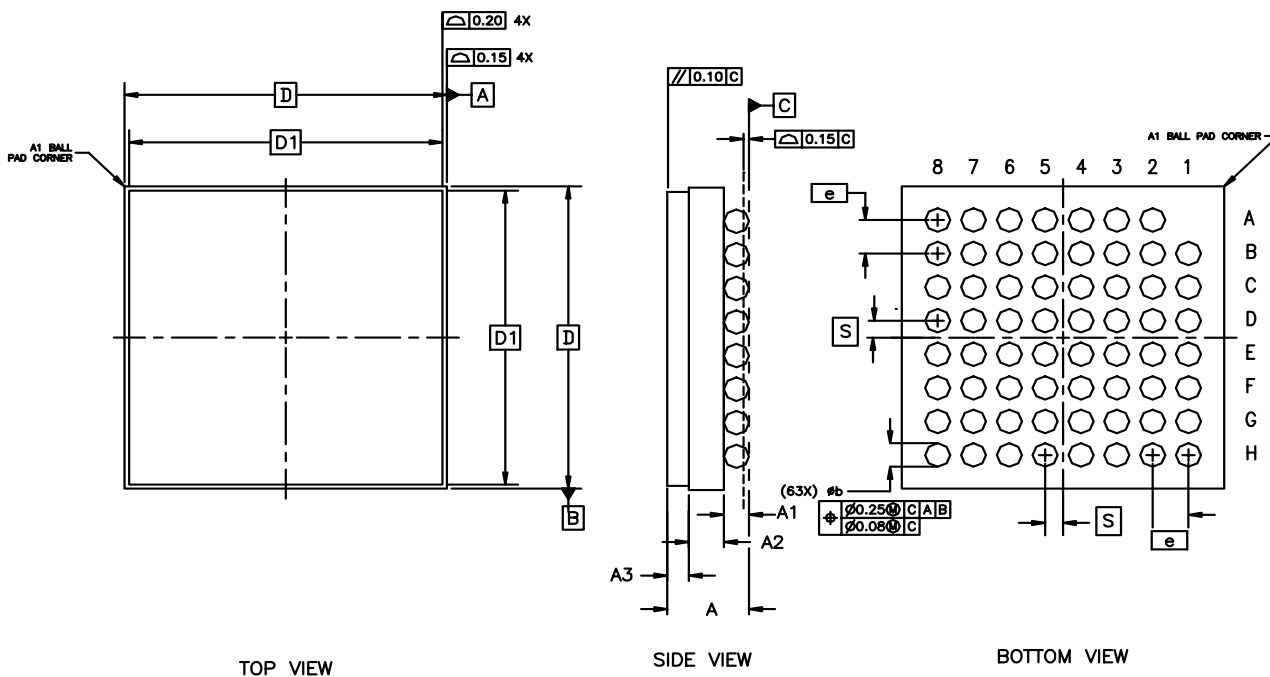

Figure 13. 63-Ball Ceramic Ball Grid Array (CBGA)
Figure 13 illustrates the package details for the Si5320. Table 12 lists the values for the dimensions shown in the illustration.
- Updated Figure 13, "63-Ball Ceramic Ball Grid Array (CBGA)," on page 30.